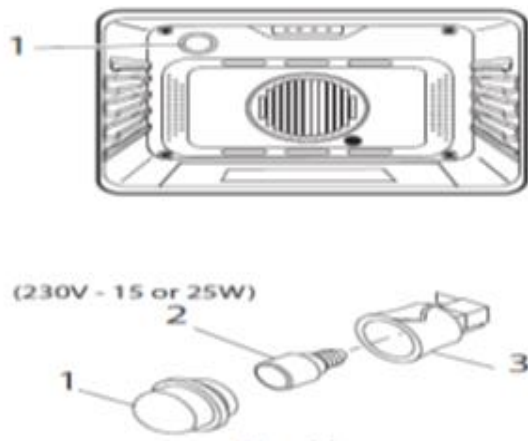

Fig. 2
2. Remove the lens (1) by unscrewing it.
3. Remove the light bulb (2) from its socket (3).
4. Replace the bulb (2) with a new one. Avoid touching the bulb with fingers, as oils from hands can damage the bulb when it becomes hot.
5. Use one with the same Volt and Watt (See Fig. 2).
6. Screw the lens (1) back on.